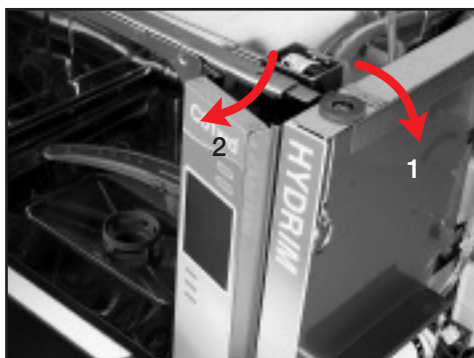

Figure 18d
4. Pull chemical bracket away and swing fascia out as shown (Figure 18d).